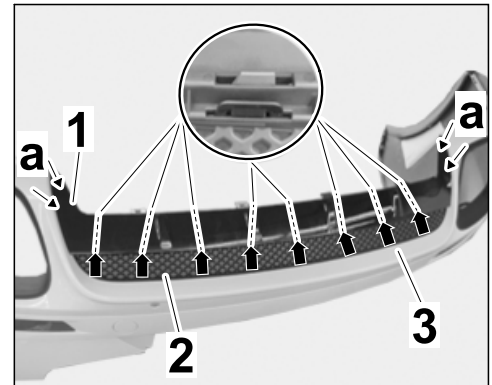

Figure 11
2.9.1 First clip diffusor ⇒ *Figure 11-1*- into the center grille ⇒ *Figure 11-2*- (⇒ *Figure 11-arrows*-).
2.9.2 Then clip diffusor into the new rear skirt ⇒ *Figure 11-3*- (⇒ *Figure 11-a*-).